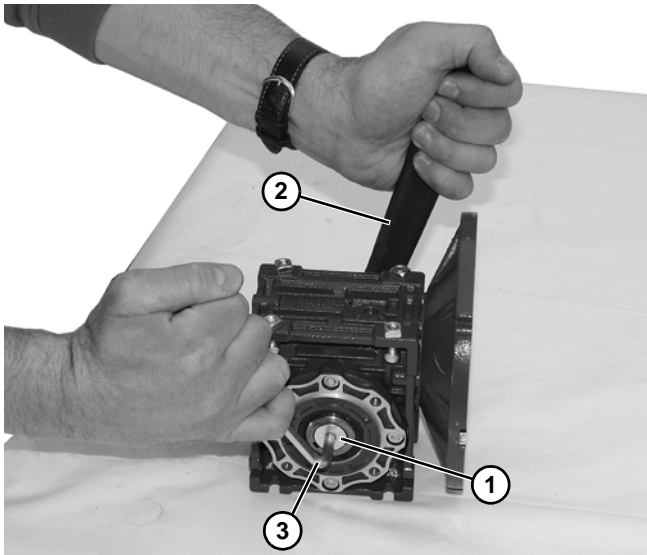

Figure 30
1. Loosen driveshaft bolt (Figure 30, item 1).
2. Hold the driveshaft with a wrench (Figure 30, item 2) as shown to keep shaft from turning, while removing screw with hex wrench (Figure 30, item 3).
7. Hold the driveshaft with a wrench (Figure 30, item 2) as shown to keep shaft from turning, while installing screw with hex wrench (Figure 30, item 3). Tighten screw to 100 in-lb (11.5 Nm) for 42CZ or 350 in-lb (39.5 Nm) for 56C, 63B5 and 71B5.